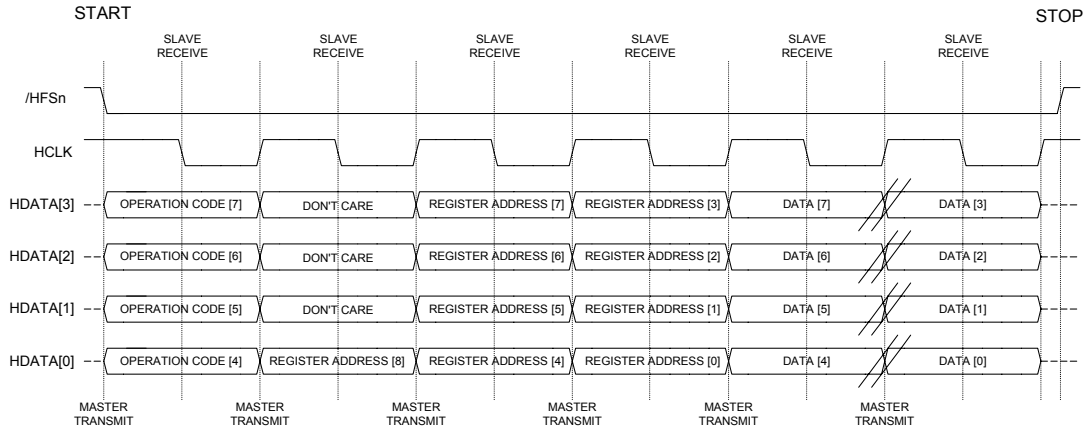

Figure 58. 6-Wire Write Operations (0x1x & 0x2x)
- The HFSn signal is used for direct addressing, therefore no device address byte is sent. The first byte instead contains the instruction byte indicating the type of operation to be performed. Figure 58 shows an equivalent Write Address Increment operation. ('Increment' Write implies that the register address is incremented after each data byte is read or written, allowing the user to program a block of sequential addresses, stating only a single starting address.)